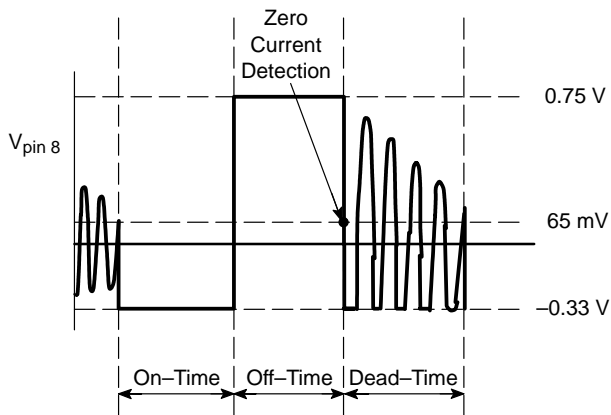
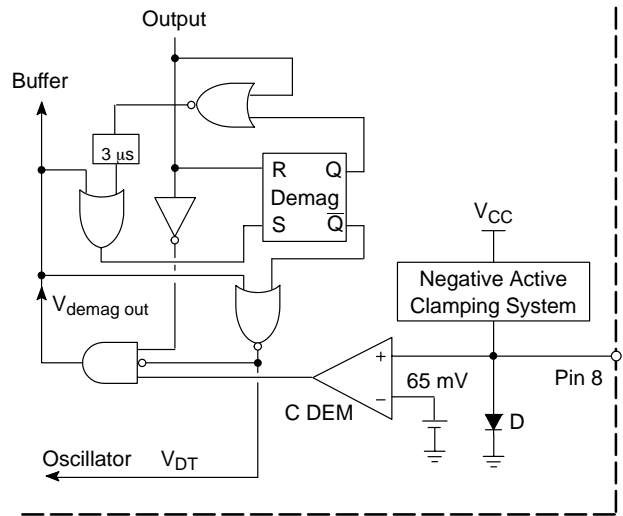

Figure 7. Demagnetization Detection
Figure 8. Demagnetization Block
- equal to zero for the dead-time with generally a ringing (refer to Figure 7).
A latch system is incorporated to keep the demagnetization block output level low as soon as a voltage lower than 65 mV is detected and as long as a new restart is produced (high level on the output (refer to Figure 8)). This process avoids that any ringing on the signal used on the pin 8, disrupts the demagnetization detection (refer to Figure 7). Finally, this method results in a very accurate demagnetization phase detection, and the signal  $V_{DT}$  drawn from this block is high only for the dead-time. Therefore, an oscillator re-start and so, a new power switch conduction is only allowed during the dead-time.
The demagnetization detection can be inhibited by connecting pin 8 to the ground but in this case, a timer (about 3  $\mu$ s) that is incorporated to set the latch when it can not be set by  $V_{demagout}$ , results in a minimum off-time (refer to Figure 8).